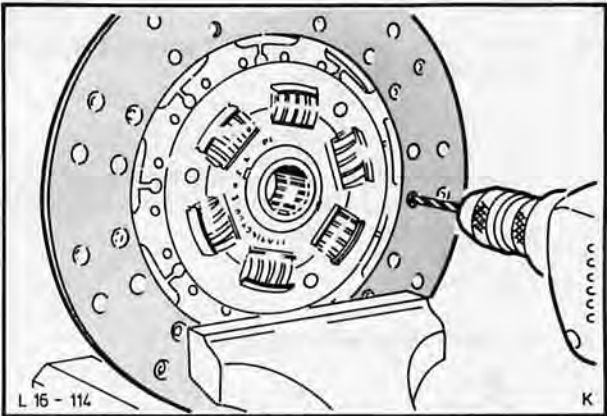

Fig. 134. Drill out rivets of clutch disc linings
- 1. Detach clutch disc lining. **Drill out rivet heads carefully so as not to damage clutch disc, Fig. 134.**